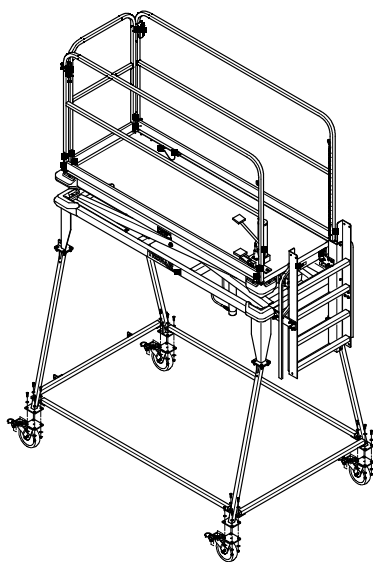

FIGURE 2
3. Install extension braces, casters and swivel locks using $\frac{3}{8}$ -16 x 1½ inch long bolts. (See **Figure 2**)